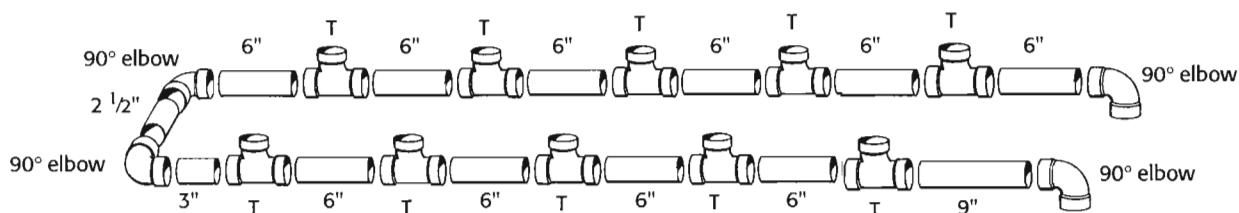

Figure 2. Proper assembly of the U-shaped unit
2. Referring to figure 2, lay out the elbows, T sections, and PVC pipe connectors on a flat surface.